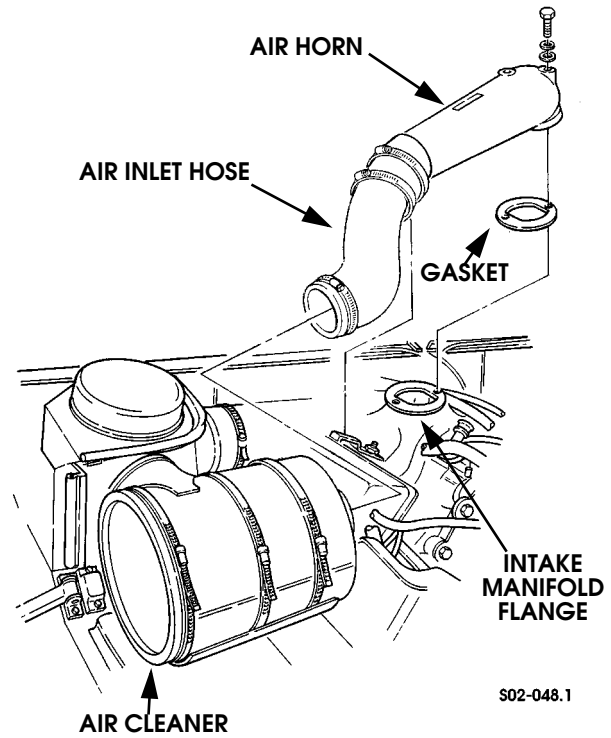

Figure 2-63: Air Horn and Hose Removal/Installation
16. Remove air horn bolts. Then remove air horn and inlet hose (Figure 2-63).